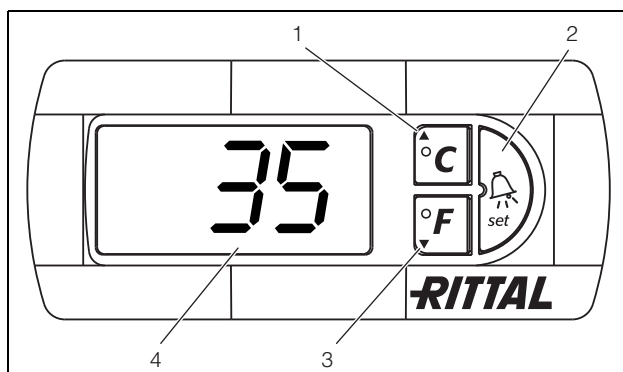

Fig. 24: Comfort controller
The Comfort controller has a 7-segment display (fig. 24, no. 4). After switching on the power supply, the current software version initially appears on this display for approx. two seconds.
In regular operation, the display shows both the temperature (in degrees Celsius or Fahrenheit – users may switch between the two) and any error messages. The current enclosure internal temperature is usually displayed permanently. In the event of an error message, this will alternate with the temperature display. The unit is programmed using buttons 1 – 3 (fig. 24). The relevant parameters also appear in the display.
- Simultaneously press buttons 1 and 2 (fig. 24) for at least five seconds.
Using buttons 1, 2 and 3 (fig. 24) you can change 24 parameters within the preset ranges (min. value – max. value).